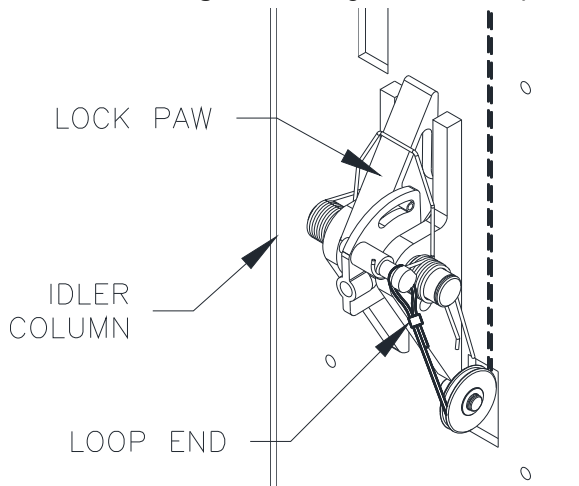
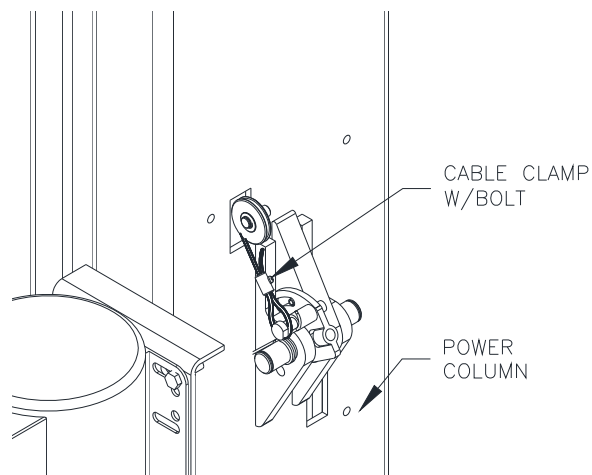

Fig 18a – Lock Release (Idler Side)
Fig 18c – Lock Release (Power Side)
- 33) While the carriages are still sitting in the locks from the previous steps, route the Lock Release Cable assembly (Loop End) through the Idler Column opening, around the pulley and attach to the Lock Release Cam as seen in **Fig 18a**.
- 35) Continue routing the cable down the inside of the Power Column and out through the column opening and around the Upper Pulley as seen in **Fig 18c**. Insert the Lock Release Cable through the Cable Clamp Tube and loop the remaining cable around the pin of the Lock Release Cam and back thru the clamp. Remove all slack in the cable until cam on Idler side is rotated as shown in **Fig. 18a** and tighten the clamp bolt.